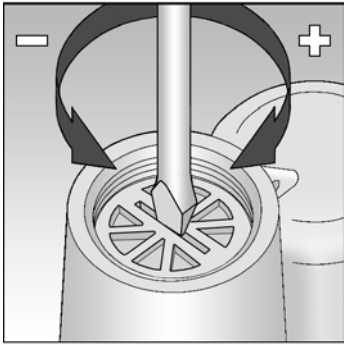

Fig. 10
3. Fully unscrew and remove the spring holder, See Fig. 10.